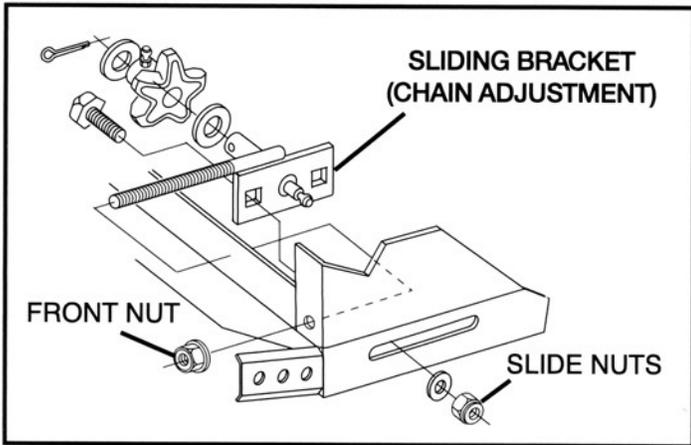

FIG. 1 - APRON CHAIN ADJUSTMENT (ALL PTO MODELS)
Periodically check the Floor Apron chain tension, (See Fig. 1).
4. If the Chain needs adjustment, use a 3/4" wrench to loosen the Slide Nuts (4) located at the bottom front corners on the side of the spreader, (See Fig. 1).